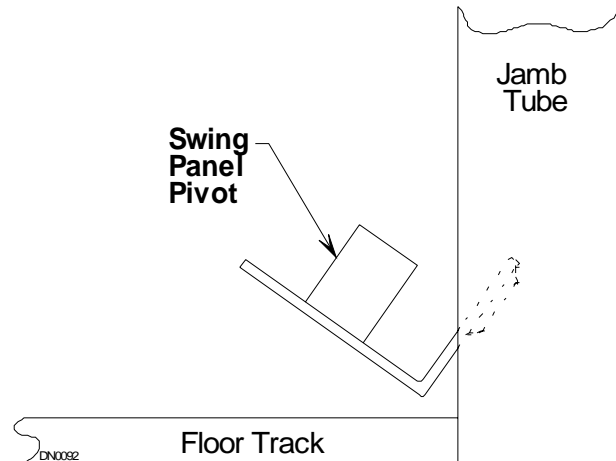

Figure 10
2. Install pivot into jamb by rotating it into cutout in jamb and fastening it with a 1/4-20 x 3/4-inch screw (see Figure 10).